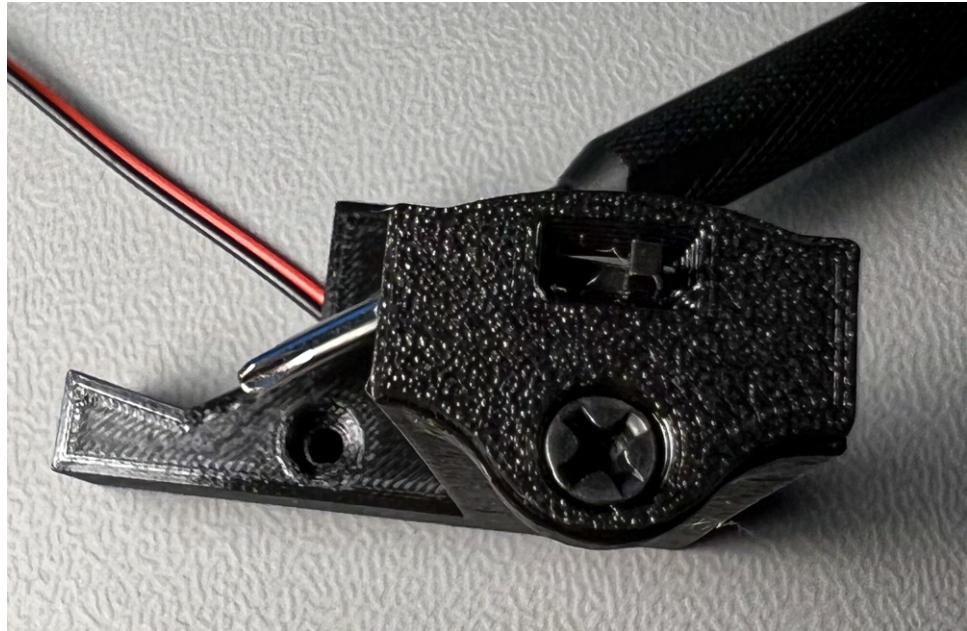

Figure 11: How to slide in the LED light into the 3D printed holder.
2. Proceed to install the end cap using one of the self-threading screws. Ensure that the ON/OFF switch remains easily accessible through the slot, similar to Figure 11.